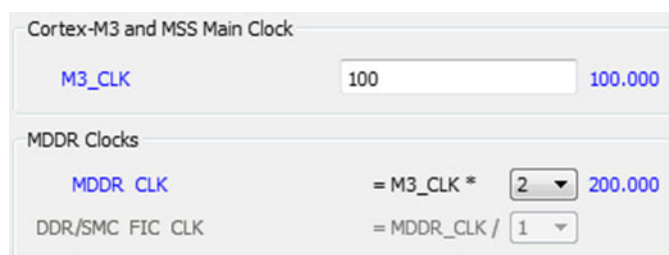

Figure 2-5 • Cortex-M3 and MSS Main Clock; MDDR Clocks
- **MDDR_CLK** - This clock determines the operating frequency of the DDR Controller and should match the clock frequency you wish your external DDR memory to run at. This clock is defined as a multiple of the M3_CLK (Cortex-M3 and MSS Main Clock, Figure 2-5). The MDDR_CLK must be less than 333 MHz.
- **FDDR_CLK** - Determines the operating frequency of the DDR Controller and should match the clock frequency at which you wish your external DDR memory to run. Note that this clock is defined as a multiple of the M3_CLK (MSS and Cortex-M3 clock, Figure 2-5). The FDDR_CLK must be within 20 MHz and 333 MHz.